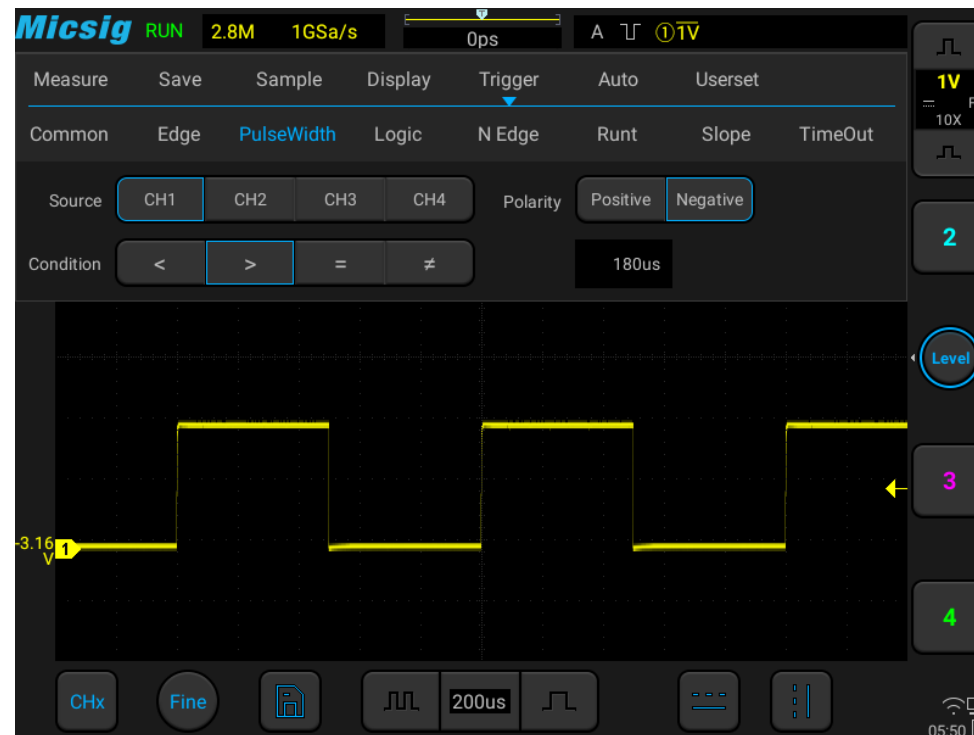

Figure 6-15 Negative Polarity Pulse Level Flip
lower than current trigger level (CH1 negative pulse indication icon $\square \sqcup$ ① 1.00V). When triggered on positive polarity pulse, if the restrictions are true, the trigger will happen on the high-to-low transition of the pulse; when triggered on negative polarity pulse, if the restrictions are true, the trigger will happen on the low-to-high transition. (Figure 6-15 Negative Pulse Level Flip)